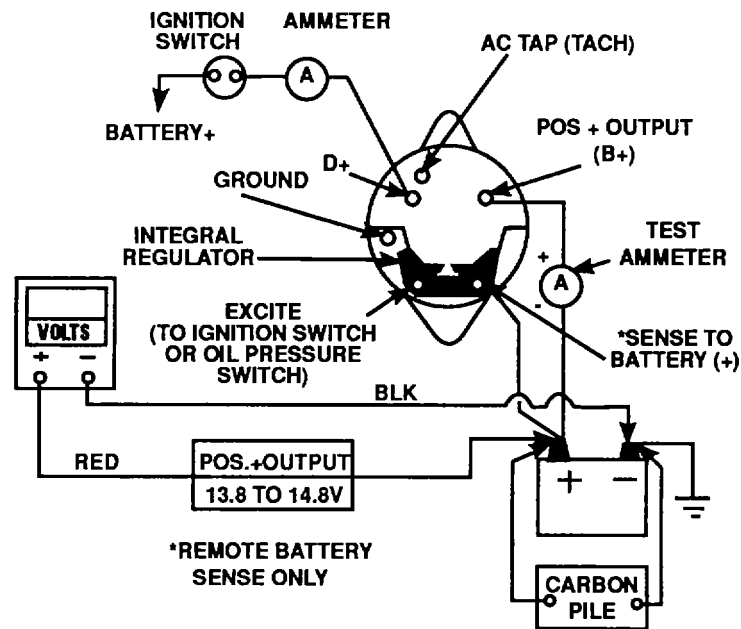

Figure 4-68. Alternator Performance Test
- t. Attach rear housing (17) to rectifier diode terminals (19).
- u. Place stator leads on studs and attach rear housing (17) to stator assembly (15). Replace washers and nuts onto A terminals.
- v. Reattach rear housing assembly (with stator, 15) to front housing assembly (8) (with rotor, 12) with four thru-bolts (18).
- w. Reinstall four spacer (7), fan (6), and fan baffle (5), and secure with Woodruff key (11).
- x. Replace pulley (3) and spacer (4) onto shaft and secure with split lock washer (2) and pulley mounting nut (1).
1. Connect leads, meters and instruments as shown (figure 4-68).